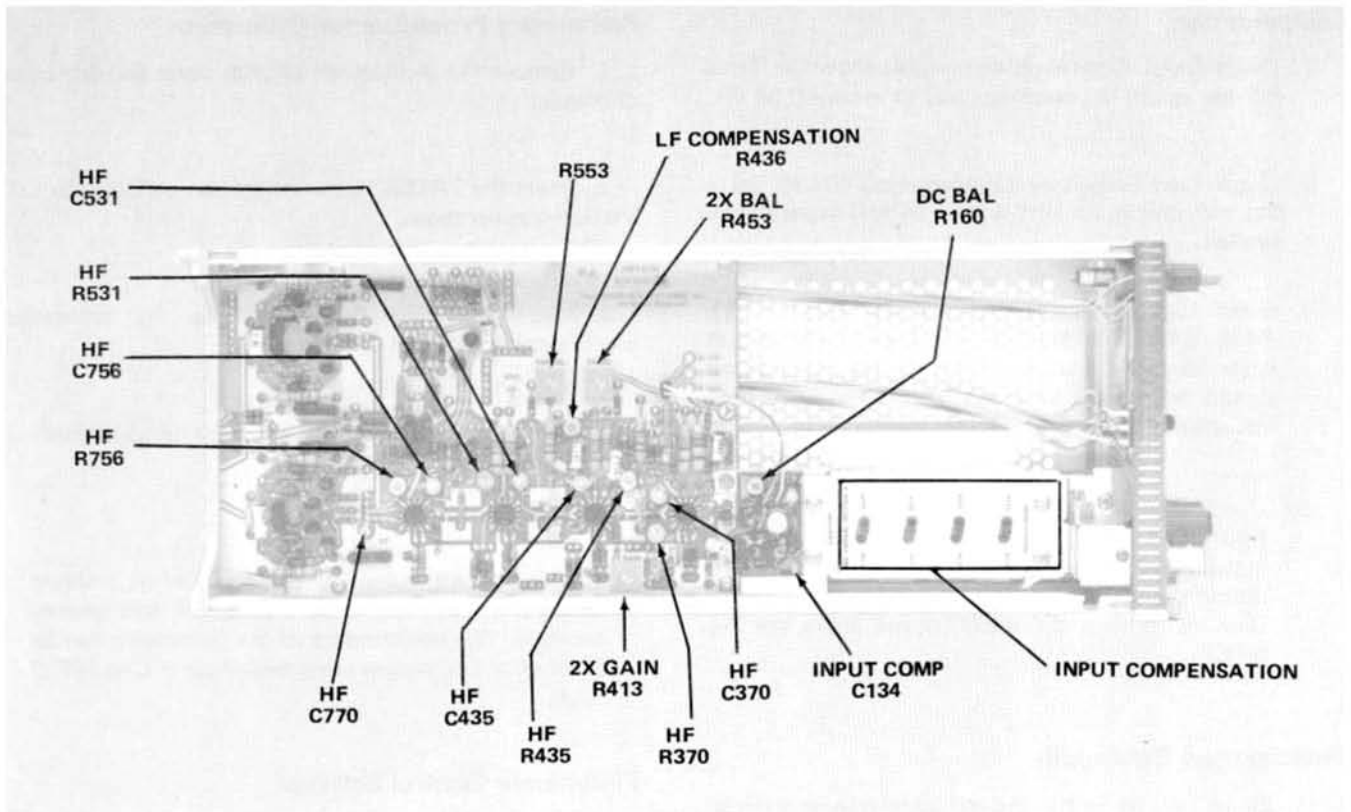
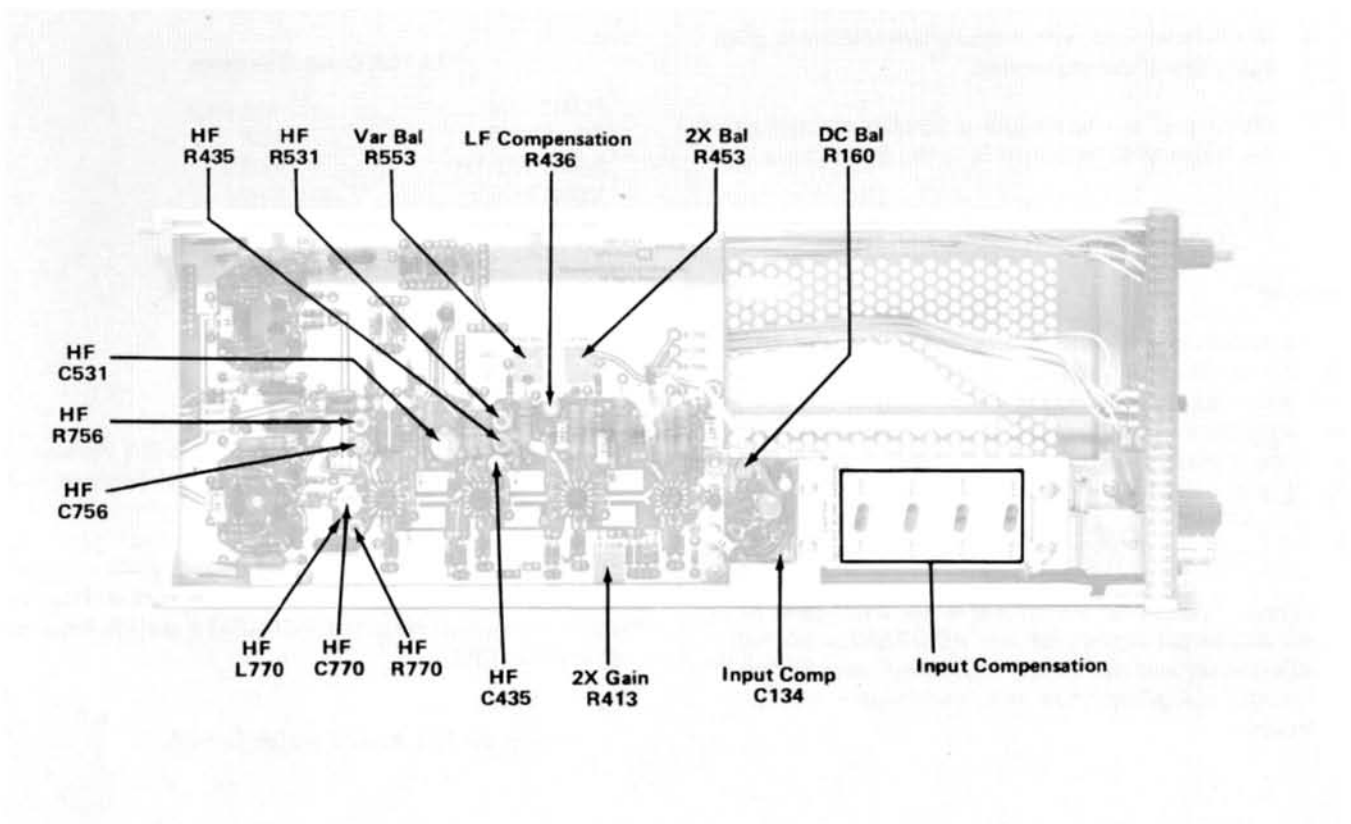

Fig. 5-1a. Location of adjustments, S/N B050000 & up.
Fig. 5-1b. Location of adjustments, Below S/N B050000.
9. Check High Frequency Compensation R531, C531, R435, C435, R756, C756, R770, and C770 in that order for best front corner and flat top. Aberrations should not exceed  $\pm 4\%$  and 6% peak-to-peak. (For instruments below SN B050000 see Fig. 5-1b.)
10. Check High Frequency Compensation R370, C370, R531, C531, R435, C435, R756, C756, and C700 in that order for best front corner and flat top. Aberrations should not exceed  $\pm 4\%$  and 6% peak-to-peak (For instruments SN B050000 and above see Fig. 5-1a.)
The following procedure is arranged so that the 7A16A can be calibrated with the least interaction of adjustments and re-connection of equipment. The control settings and test equipment setup throughout this procedure continue from the preceding steps unless otherwise noted. Refer to Fig. 5-1a and Fig. 5-1b for location of adjustments.